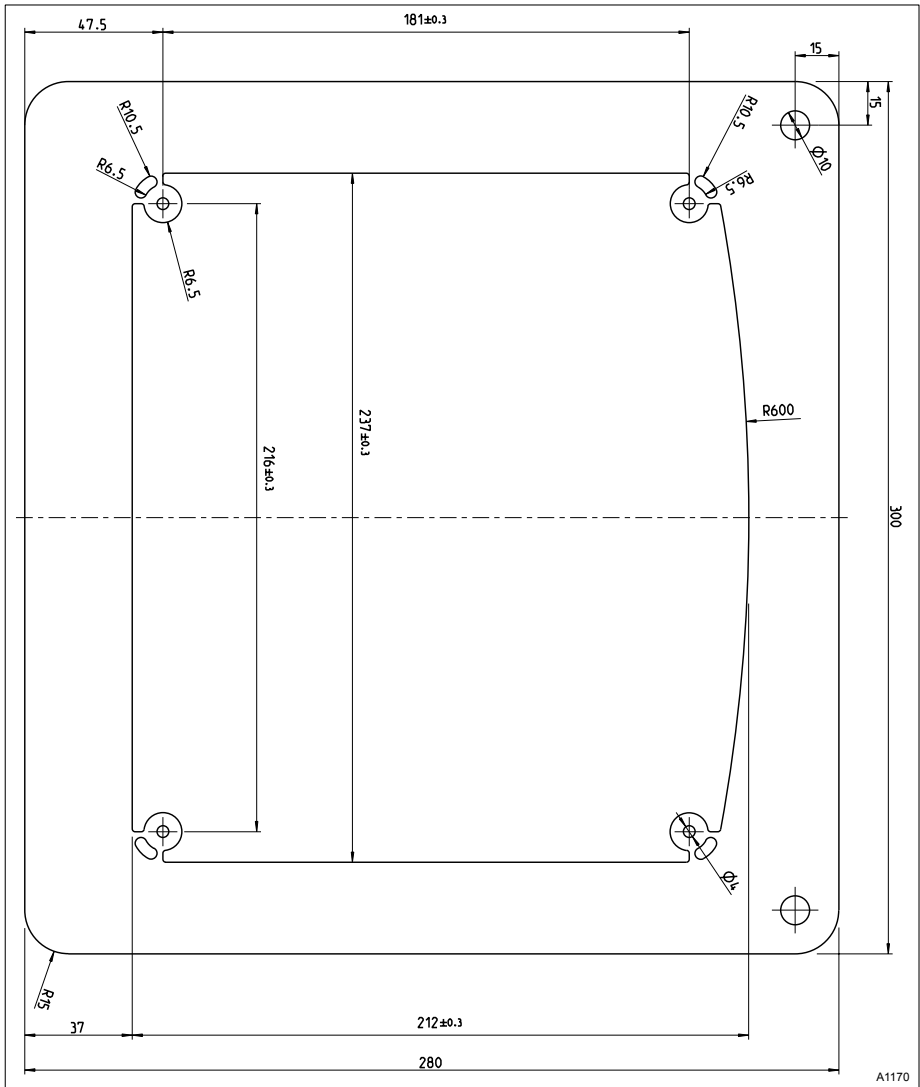

Fig. 15: The drawing is not true to scale and will not be revised as part of these operating instructions. The drawing is for information only.
- Use the dimensions shown in Fig. 15 and mark on the control panel